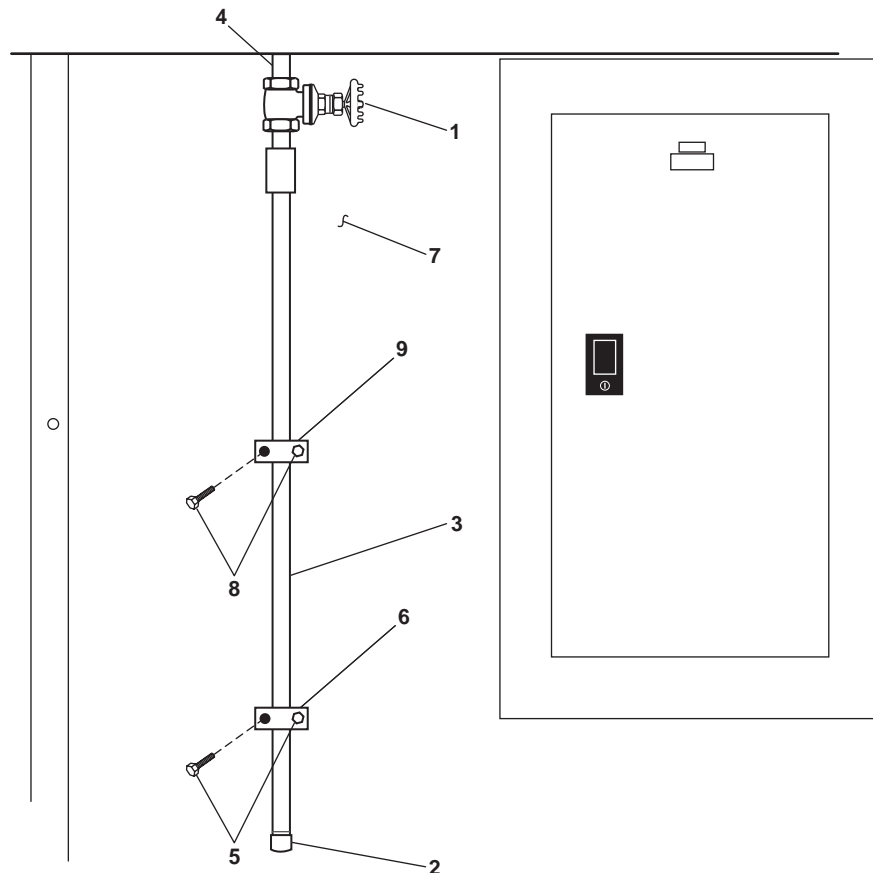

Figure 8. O2 Level Fire Main Drain Down Valve
1. Verify that the O2 level fire main drain down valve (figure 8, item 1) is CLOSED.
2. Remove the cap (figure 8, item 2) from the O2 level fire main drain down valve piping (figure 8, item 3).
3. Install a suitable hose on the O2 level fire main drain down valve piping (figure 8, item 3) and run the remainder of the suitable hose to the O1 level exterior.
4. OPEN the O2 level fire main drain down valve (figure 8, item 1) and drain the O2 level fire main piping (figure 8, item 4).
5. Remove the suitable hose from the O2 level fire main drain down valve piping (figure 8, item 3) and install the cap (figure 8, item 2).
6. CLOSE the O2 level fire main drain down valve (figure 8, item 1).
7. Remove the two bolts (figure 8, item 5) from the lower clamp (figure 8, item 6) that secure the O2 level fire main drain down valve piping (figure 8, item 3) to the bulkhead (figure 8, item 7).
8. Remove the lower clamp (figure 8, item 6) from the O2 level fire main drain down valve piping (figure 8, item 3).
9. Remove the two bolts (figure 8, item 8) from the upper clamp (figure 8, item 9) that secure the O2 level fire main drain down valve piping (figure 8, item 3) to the bulkhead (figure 8, item 7).
10. Remove the upper clamp (figure 8, item 9) from the O2 level fire main drain down valve piping (figure 8, item 3).
11. Remove the O2 level fire main drain down piping (figure 8, item 3) from the O2 level fire main drain down valve (figure 8, item 1).
12. Remove the O2 level fire main drain down valve (figure 8, item 1) from the O2 level fire main piping (figure 8, item 4).
1. Install the O2 level fire main drain down valve (figure 8, item 1) on the O2 level fire main piping (figure 8, item 4).
2. Install the O2 level fire main drain down piping (figure 8, item 3) in the O2 level fire main drain down valve (figure 8, item 1).
3. Install the upper clamp (figure 8, item 9) on the O2 level fire main drain down valve piping (figure 8, item 3).
4. Install the two bolts (figure 8, item 8) in the upper clamp (figure 8, item 9) that secures the O2 level fire main drain down valve piping (figure 8, item 3) to the bulkhead (figure 8, item 7).
5. Install the lower clamp (figure 8, item 6) on the O2 level fire main drain down valve piping (figure 8, item 3).
6. Install the two bolts (figure 8, item 5) in the lower clamp (figure 8, item 6) that secures the O2 level fire main drain down valve piping (figure 8, item 3) to the bulkhead (figure 8, item 7).
7. CLOSE the O2 level fire main drain down valve (figure 8, item 1).